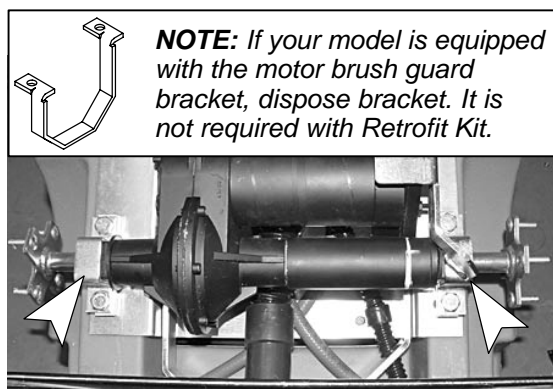

Fig. 11
4. Remove the transaxle brackets and remove the old transaxle from the machine, 17mm wrench required (Figure 11).